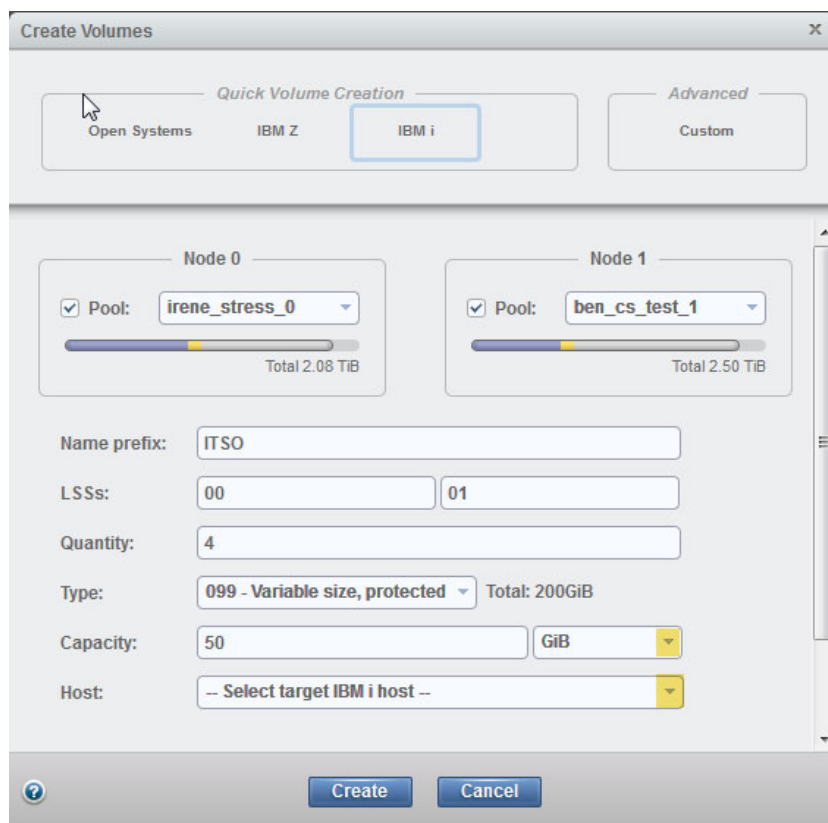

Figure 11-52 Creating IBM i Volumes
Note: With the release 8.3 of the DS8880 microcode, the storage administrator of IBM i is able to create variable size IBM i volumes, as shown in Figure 11-52 on page 317.
8. You can map the volumes to a defined IBM i host on the same window. See Figure 11-52.